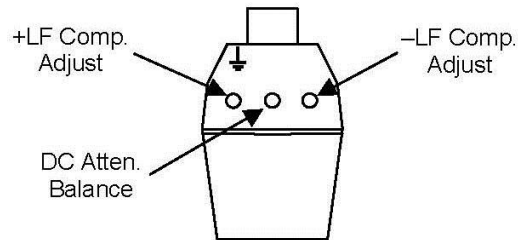

Figure 6, $\div 10$ Attenuator Adjustment Locations
- Using the square adjustment tool, adjust the +LF Comp (See Figure 6) to achieve the best square corner and flat top of the displayed waveform. Note that the added capacitance of the adjustment tool may change the compensation of the waveform when it is inserted. The correct adjustment is achieved when the best corner is displayed with the adjustment tool removed
- The displayed waveform is the common mode feedthrough. Using the adjustment screwdriver with the flat blade, adjust the DC Atten. Balance (Figure 6) to minimize the amplitude of the flat portions of the displayed waveform. This adjustment only affects the flat portions of the square wave. Do not be concerned with any overshoot at the transitions.
- Using the 0.025 in. square adjustment tool, adjust the –LF Comp (Figure 6) to minimize the amplitude of overshoot during the transition of the displayed waveform. It may not be possible to completely eliminate the overshoot. As with the +LF Comp adjustment, the added capacitance of the adjustment tool may change the amplitude of the waveform when it is inserted into the adjustment. The correct adjustment is achieved when the overshoot is minimized.